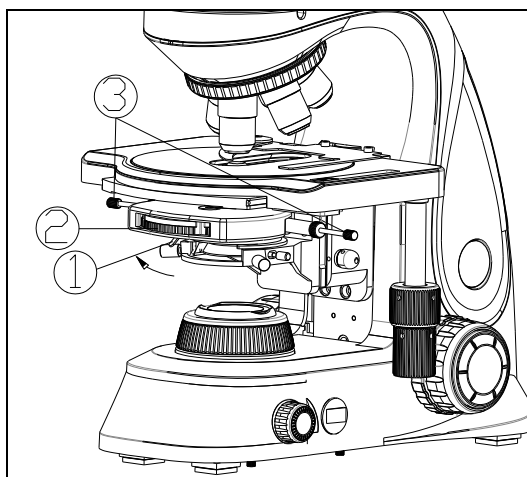

Fig. 21
Rotate the phase contrast ring ② to “BF” position in bright field observation. When it sounds “ka-da” in rotating, it indicates that one diaphragm or hole is rotated into the center of optical path (see Fig. 21).